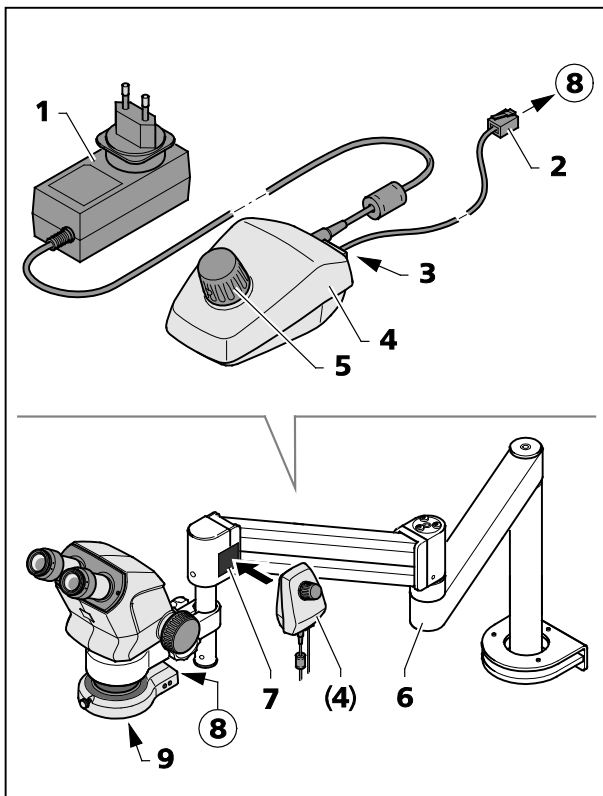

Fig. 19 Controller K LED
The Controller K (Fig. 19/4) is used to activate the ring illuminator in case of applications with boom stands A or U or additional stands.
- Screw-fasten the front lens system (Fig. 19/7) to the microscope body.
- Secure the adhesive side of the magnetic plate (Fig. 19/7) to the swivel arm stand.
- Plug the connection cable supplied with the device (1 m long) (Fig. 19/2) into the socket (Fig. 19/8) on the ring illuminator and into the socket (Fig. 19/3) on the back of the controller K.
- Place controller K (Fig. 19/4) next to the magnetic plate (Fig. 19/7).
- Connect controller K to the power supply using the power unit (Fig. 19/1).
- Align swivel arm stand (Fig. 19/6) to enable an ergonomic working position.
- Turn the knob (Fig. 19/5) on the controller K to switch the ring illuminator ON and adjust illumination intensity by turning the knob.